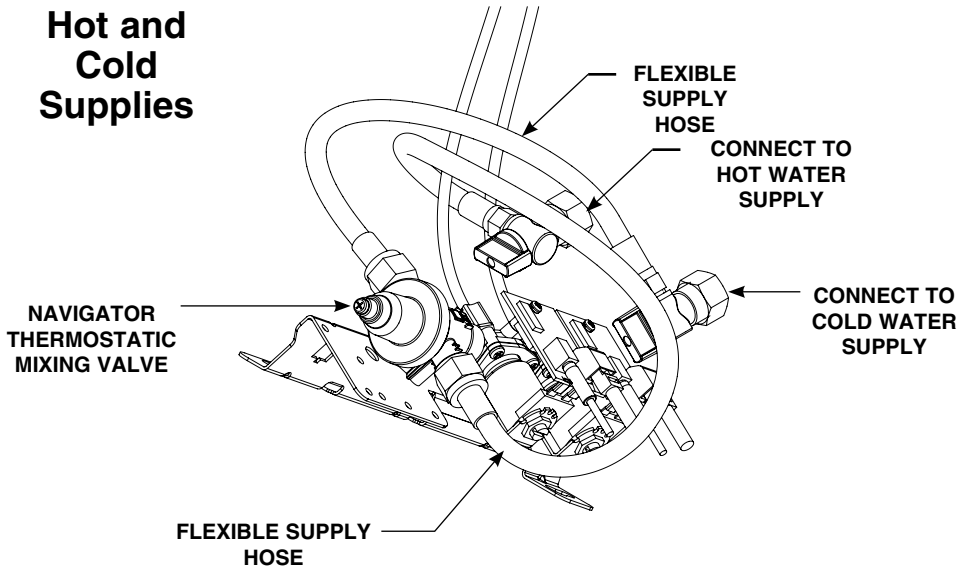

Figure 5a
2. FOR HOT AND COLD SUPPLY: Attach the stops to the hot and cold water supply piping from the wall. Connect the flexible hoses to the Navigator Mixing Valve and to the stops (see Figure 5a).